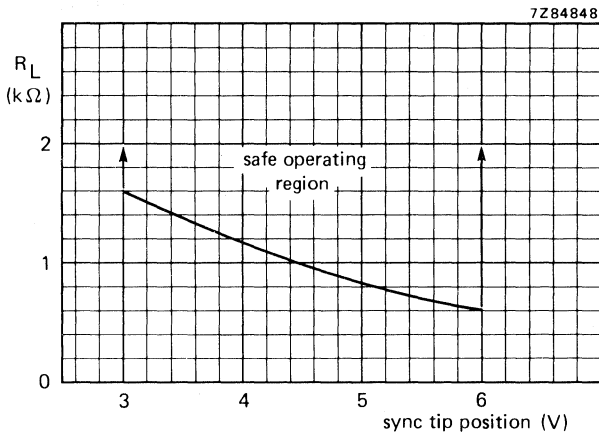

Fig. 4 Safe operating area for load resistor ( $R_L$ ) at pin 8 as a function of sync tip d.c. position.
(1) TOKO 7 P series coil 78 R former.
(2) See derating curve Fig. 4.